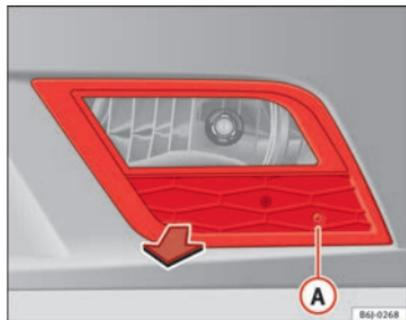

Fig. 158 Fog lights
- Remove the bolt => fig. 158 (A) from the fog light grill with a screwdriver.